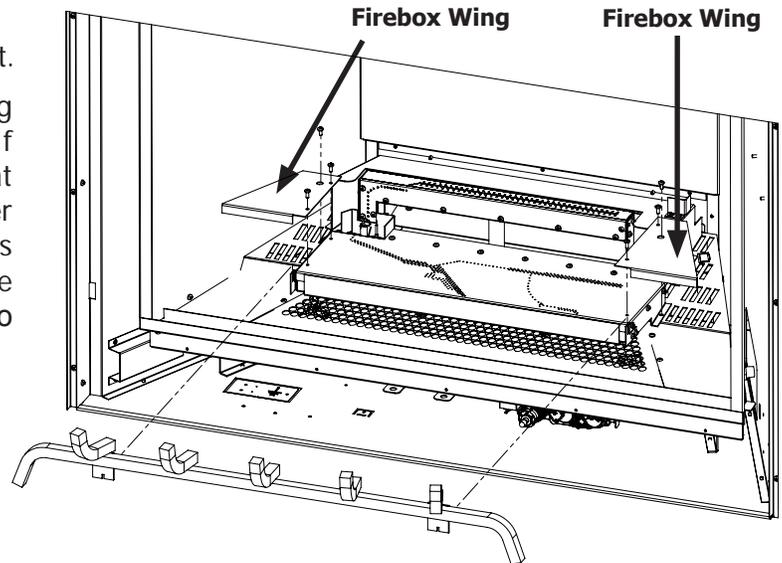

Figure 10. Front Burner Removal
6. Remove the two T-20 screws securing the front burner pan (see Figure 10). If needed, there are four T20 screws that fasten the Burner Wings to the burner that can be removed for easier access to the two lower T20 screws. Once the specified screws are removed lift up to remove.